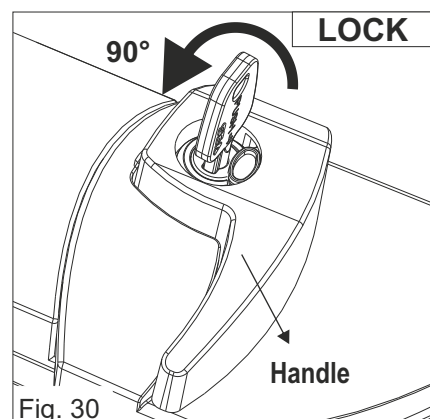

Fig. 30
- 2) Turn the key about 90° counter-clockwise (Fig. 30)